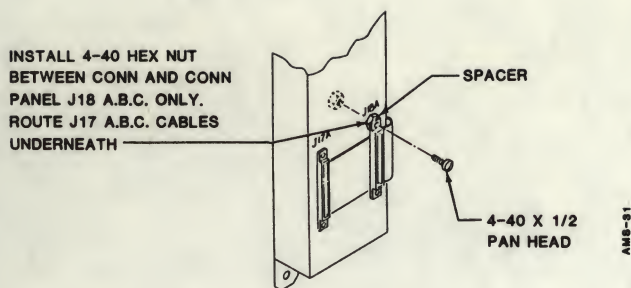

Figure 7-11. Flat Cable Interface Routing to Connector Mounting Panel
6. During installation of the flat cable interface connector (J17) to the cabinet connector panel at rear, use the spacers provided to raise J18 connector off of the cabinet connector panel and allow the J17 cable to pass underneath, (see Figure 7-11).